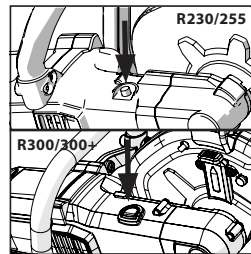

FIG. 2
- Press the arbor lock to lock the machines arbor. (Fig. 2)